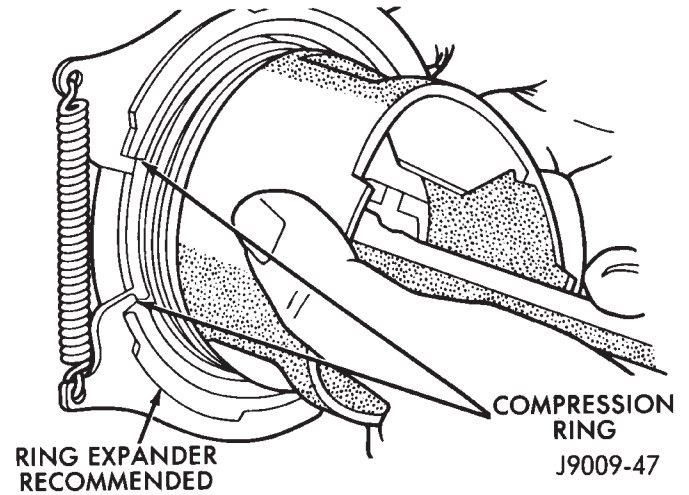

Fig. 16 Compression Ring Installation
(8) Using a ring installer, install the second compression ring with the chamfer facing down (Fig. 16). The two dots will be facing up.
(10) Using a ring installer, install the top ring with the chamfer facing up (Fig. 16). The dot will be facing up.